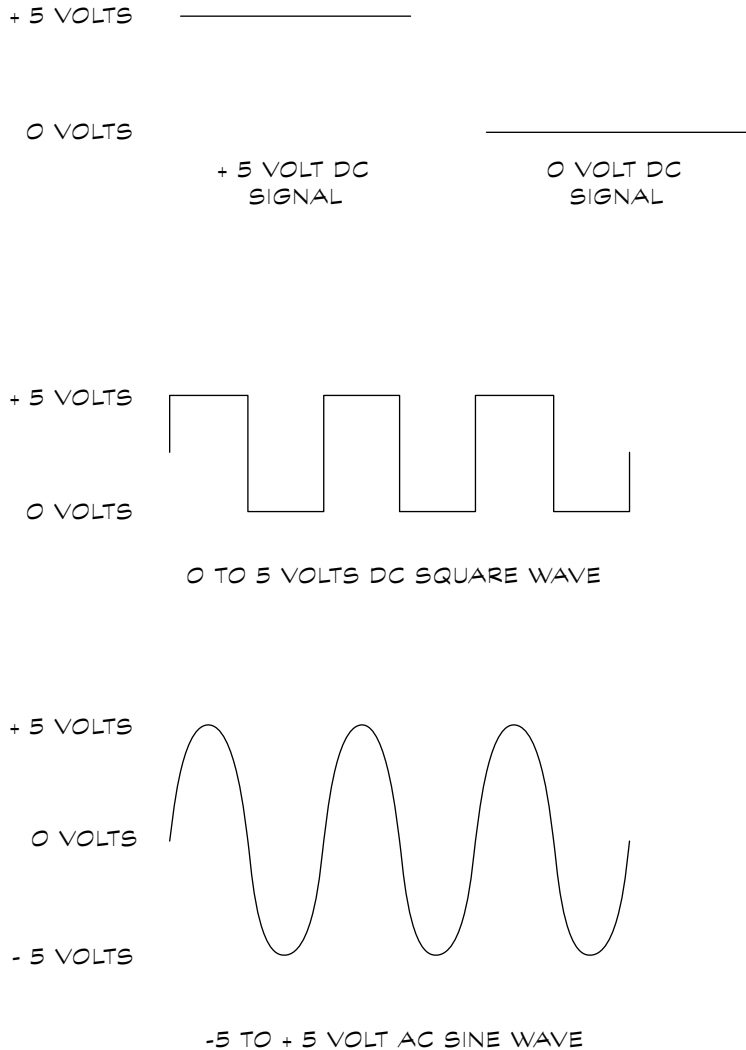

Figure 1-1:
Figure 1-1 shows diagrams of a few signals that you run into often when working with electronics. These signals include
- ✔ **- 5 volt to + 5 volt AC sine wave:** A signal, such as from a microphone, that generates alternating current that a device, such as an amplifier, uses as input. A microphone generates the waveform in Figure 1-1 when it receives the sound produced by a tuning fork. Notice in Figure 1-1 that the transitions from +5 volts to -5 volts are gradual for the sine wave and more abrupt in the square wave.